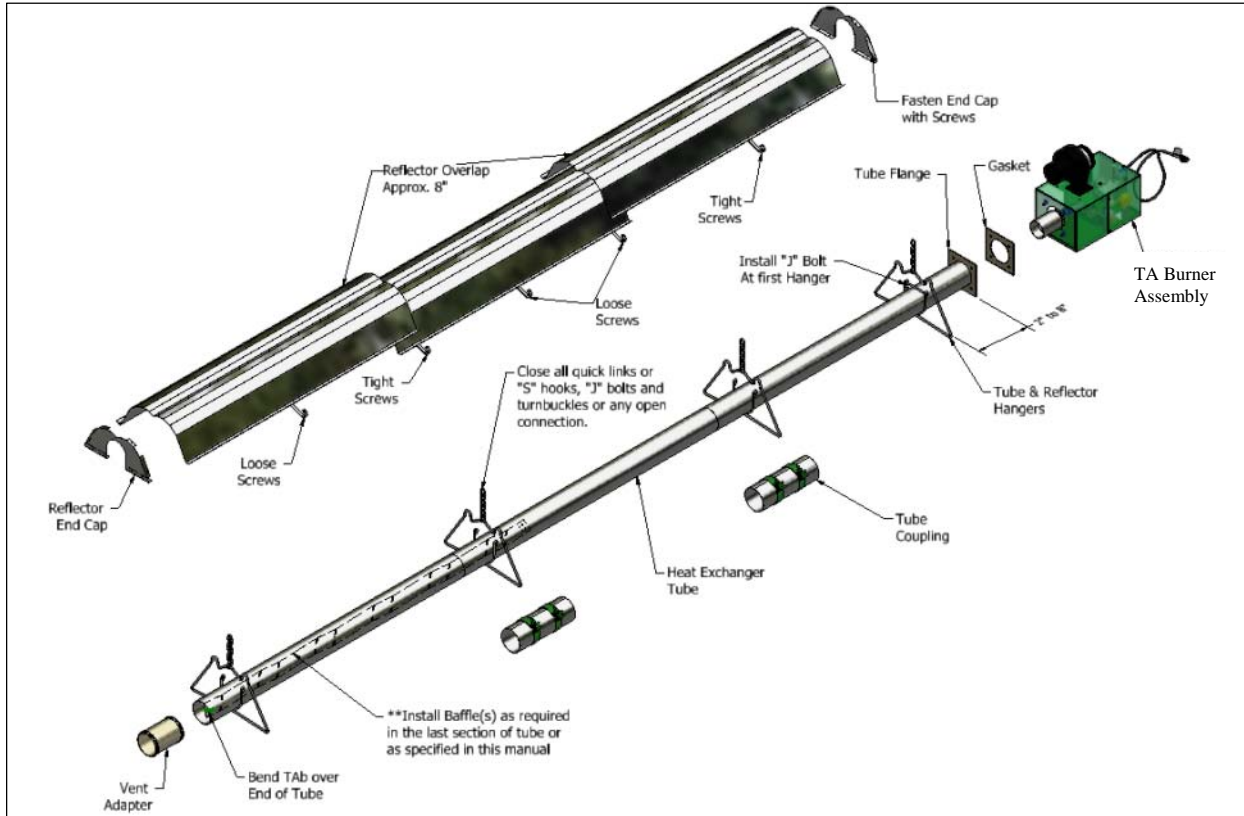

Figure 3: General Overview of Installation
- 205,000 BTU/Hr 50' heat exchanger with a 4' baffle at 40', and a 8' baffle at 50'. (See figure 3)
Generally, there is no unique sequence for installation of the burner or heat exchanger. A review of the job site will usually indicate a logical installation order. However, time and expense can be saved if installation is begun at the most critical dimension, watching for interference from overhead doors, cranes, auto lifts etc. Figure 3 provides a general overview of the components utilized in the installation, as well as their general relationship.